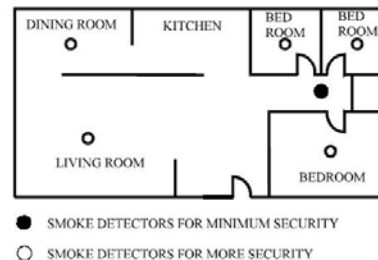
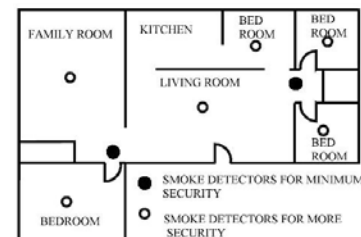

FIGURE 1
FIGURE 2
1. Install a detector in the hallway outside every separate bedroom area as shown in FIGURE 1. Two detectors are required in homes with two bedroom areas as shown in FIGURE 2.